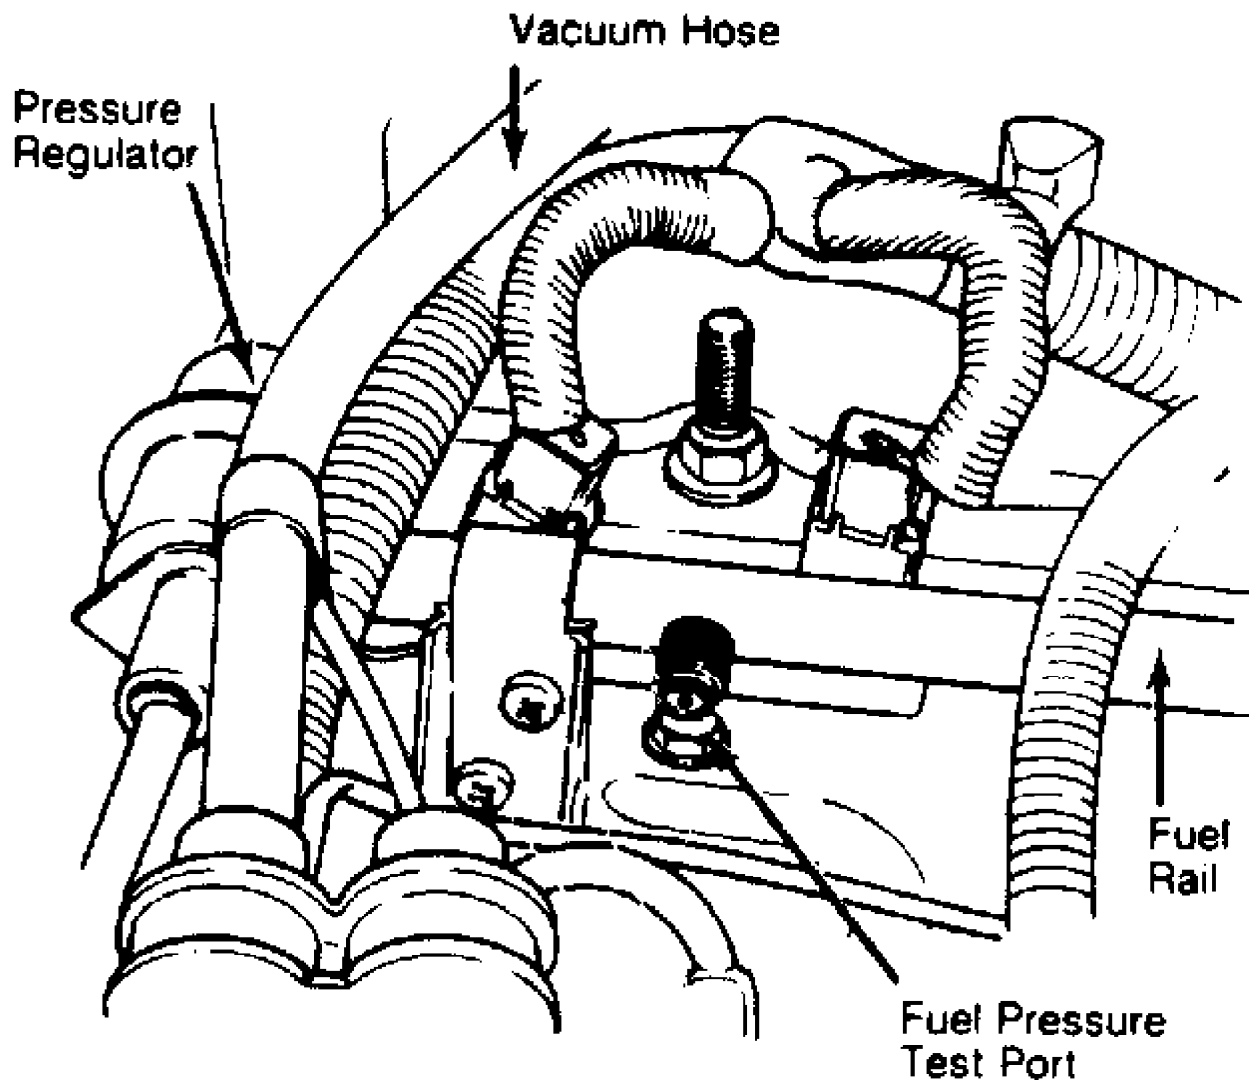

Fig. 3: Location of Fuel Pressure Test Port
connect Fuel Pressure Gauge (J-34730-1). See Fig. 3. Start engine and observe fuel pressure. With vacuum hose connected to pressure regulator, pressure should be about 31 psi (2.2 kg/cm²), and about 39 psi (2.7 kg/cm²) with vacuum hose disconnected.
1) Remove cap from the pressure test port on the fuel rail. See Fig. 3. Connect piece of hose to port and place other end in graduated container of at least one quart (1L) capacity.